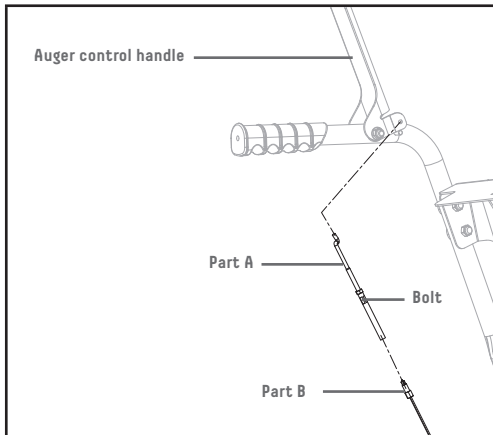

Figure 7
In the process of operation, if the auger or drive control handle is too loose, screw the bolt (Fig. 7) of part A to get a natural tension station for the wire.
1. The auger control wire includes part A and part B (Fig. 7).
2. Lift the auger control handle to the upper position (Fig. 7).
3. Hook part A into the auger control handle (Fig. 7).
4. Connect part A and part B of the auger control wire to get a natural tension station for the wire. (Fig. 7)